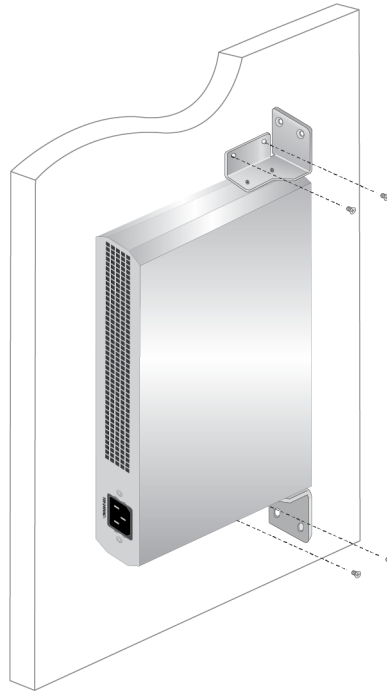

Figure 23. Driving the Screws through the Holes
8. Position the switch on the wall and drive screws through the holes to attach the brackets on the wall. See Figure 23.